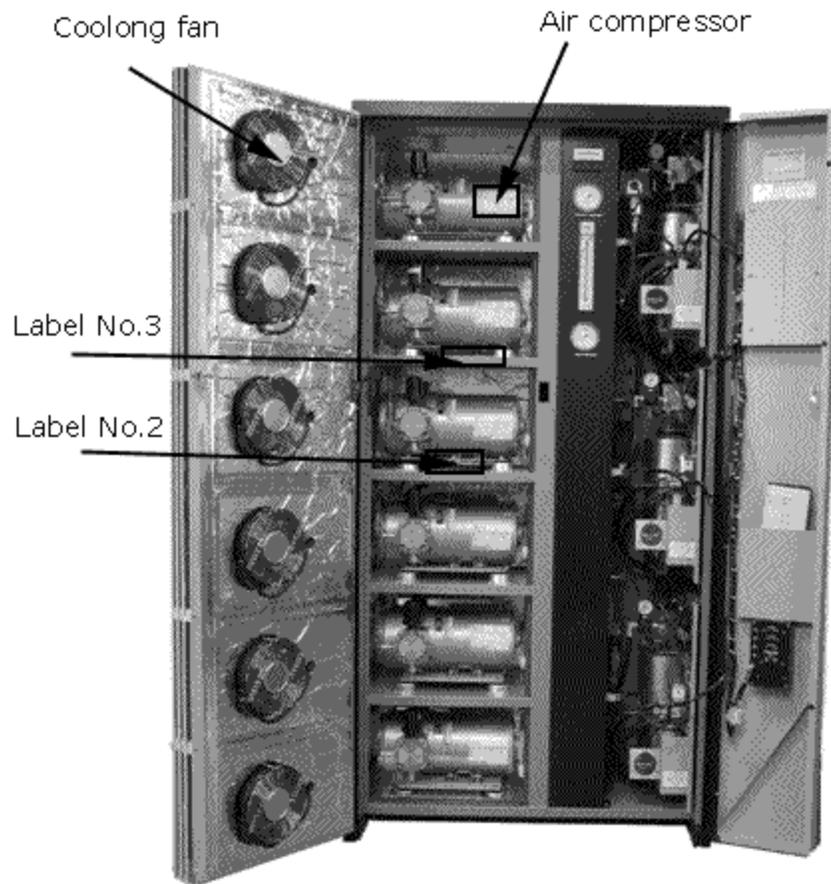

Figure 2
2. Refer to Figure 2, peel the back from **Label No. 2** and place it in the correct location (flat on third compressor shelf).
3. Refer to Figure 2, peel the back from **Label No. 3** and place it in the correct location (front on fourth compressor shelf).